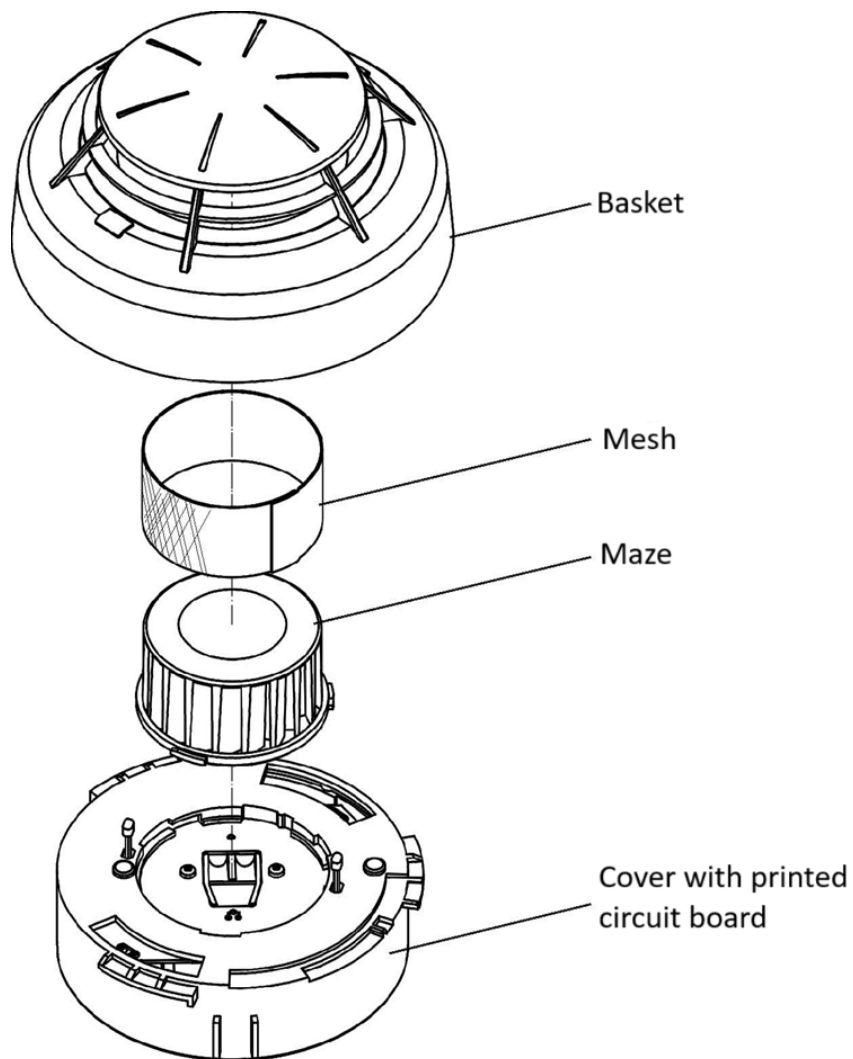

Fig. 6.2 Detector components after disassembly
- **duplication of the red LED flash** – the multiplied indicator of the WZ activation (Fig.6.2) flashes like a red LED in the alarm detector, **the acoustic siren is switched off and cannot be controlled,**
- **independent of the alarm** - the multiplied indicator of the GIN operation (Fig.6.2) is a controlled output with a declared group address. **The sounder is off and cannot be controlled.**